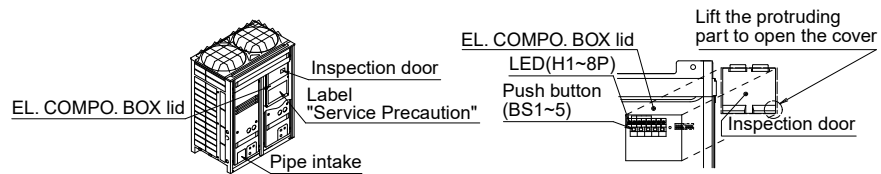

fig 32
4. Perform the refrigerant charging operation following [Refrigerant charging operation procedure], and charge the remaining refrigerant of the “additional charging amount”. For performing the refrigerant charging operation the push button on the PC-board (A1P) of outdoor unit are use. (See the figure 32) In addition, the refrigerant are charged from the refrigerant charge port via the valve A.